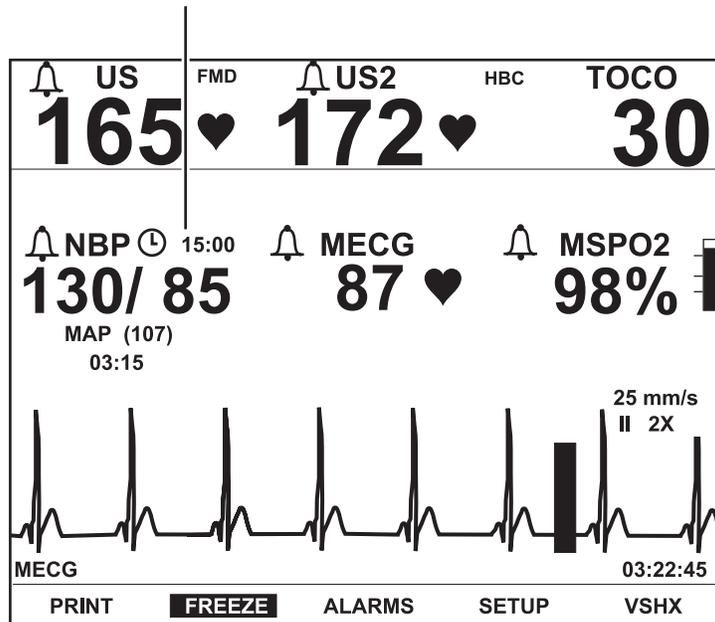

Figure 9-4. NBP Interval Time Shortcut
2. After holding for approximately two seconds, the interval field display in place of the countdown timer. Refer to Figure 9-4.